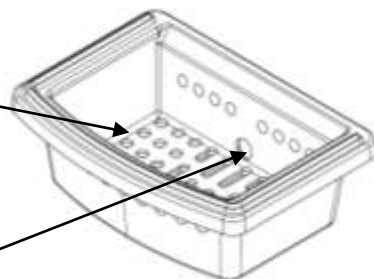

Figure 11
- **Firebox** (Figure 11) is a part of the cooker in which the pellets are burned. It is recommended to clean the firebox with the vacuum cleaner after each use. **Cleaning is done by** taking the firebox out and cleaning it from ash, slag and unburned pellets. After cleaning, return the firebox back and place it firmly in its place to ensure the safe operation of the cooker. The firebox must be in a horizontal position, it must not be inclined! The gasket on the underside of the firebox must be in place and must not be damaged.